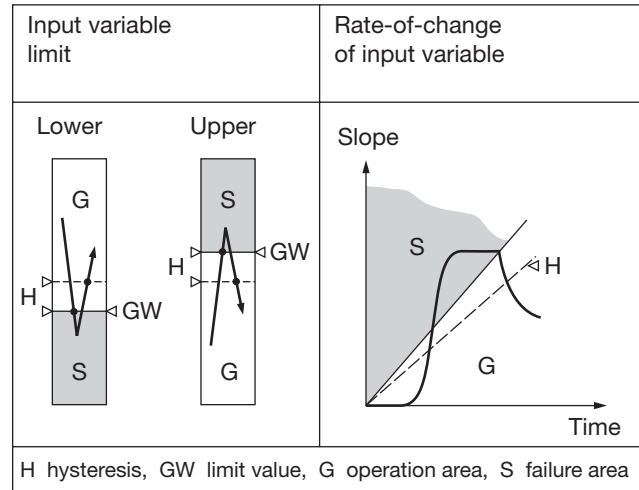

Fig. 3. Switching function according to limit monitored.
- for monitoring the input variable in relation to a lower or upper limit between -10 and +110%² (see left side of Fig. 3)
between ± 1 and $\pm 50\%/s^2$ (see right side of Fig. 3)